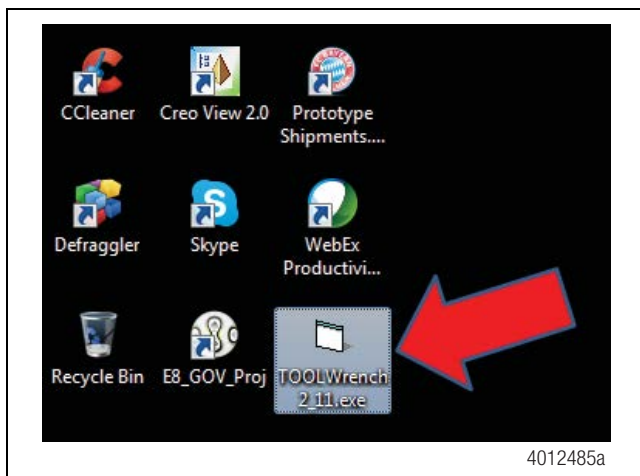

Figure 1
1. Save the TOOLWrench 2\_11.exe on the desktop folder of the laptop that has the Meritor WABCO TOOLBOX™ Software installed. Make sure that the file extension on the file is correct (it must be .exe). Figure 1.